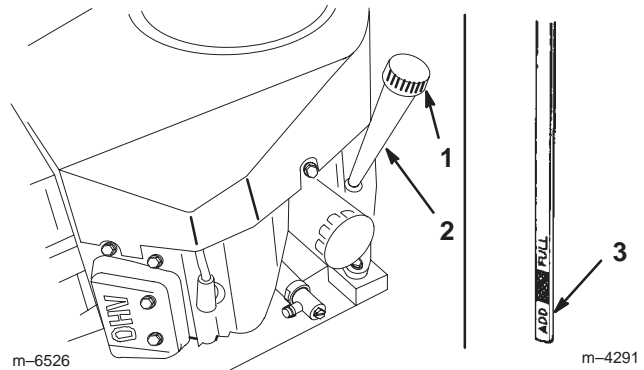

Figure 20
2. Clean around the oil dipstick (Fig. 20) so that dirt cannot fall into the filler hole and damage the engine.
3. Unscrew the oil dipstick and wipe the metal end clean (Fig. 20).
4. Slide the oil dipstick fully into the filler tube, but do not thread it onto the tube (Fig. 20). Pull the dipstick out and look at the metal end. If the oil level is low, slowly pour only enough oil into the filler tube to raise the level to the **full** mark on the dipstick.
6. Clean around the oil dipstick and unscrew the cap (Fig. 20).
7. Slowly pour approximately 80% of the specified oil into the filler cap (Fig. 20). Refer to Servicing the Engine Oil, page 26.